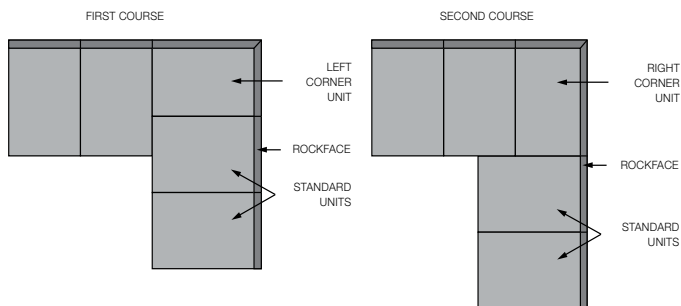

Figure 40. Outside corner typical installation
*Installation* - Units are placed on one course leading to the corner. The corner unit is positioned so both rough faces (if there is one) will be exposed in the final construction. Then, standard units are placed on the same course of the adjacent wall. A corner unit from the other direction is placed on the next course to interlock the corner. More standard units need to be placed to complete the course on both walls. The process is repeated as required (Figure 40).